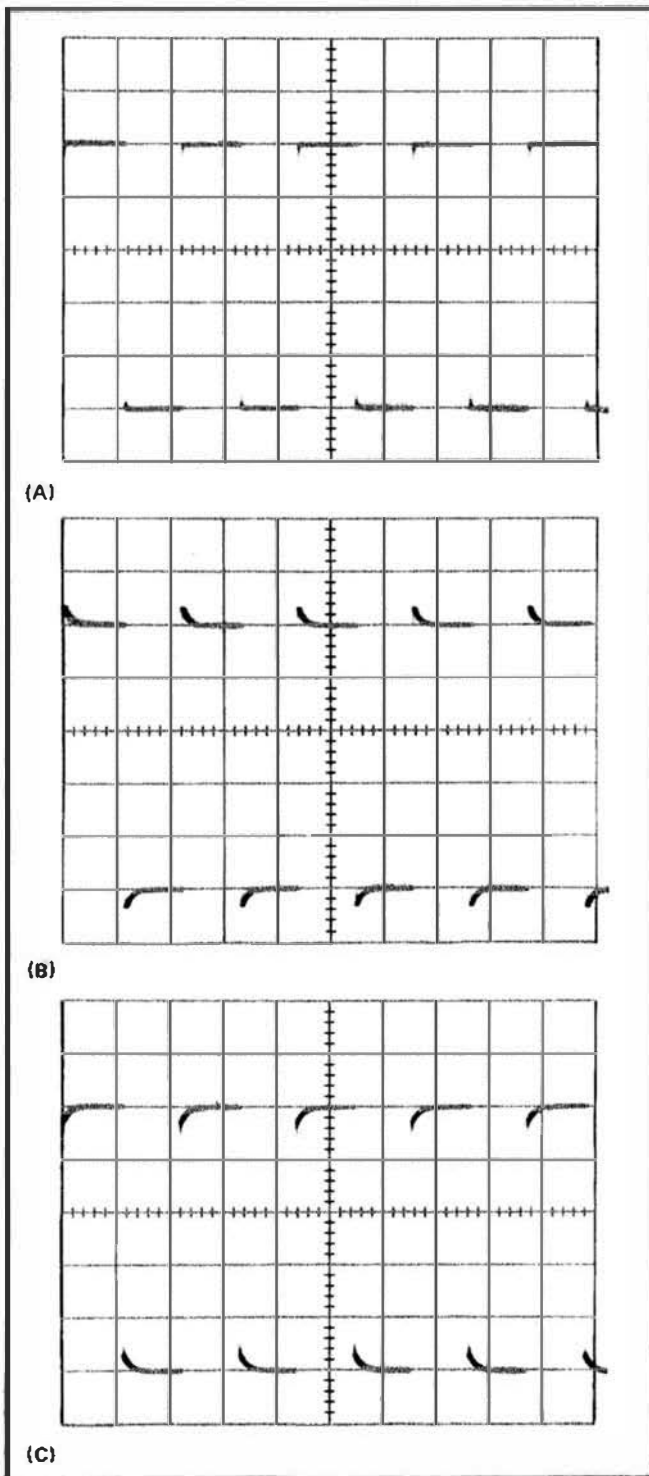

Fig. 5-3. Typical waveform showing (A) Correct adjustment of Input Attenuator Time Constant. (B) and (C) Incorrect adjustment.
f. CHECK—The square wave display for flat tops (see Fig. 5-3).
d. CHECK—Each square wave for a flat bottom, using Fig. 5-3 as a guide.